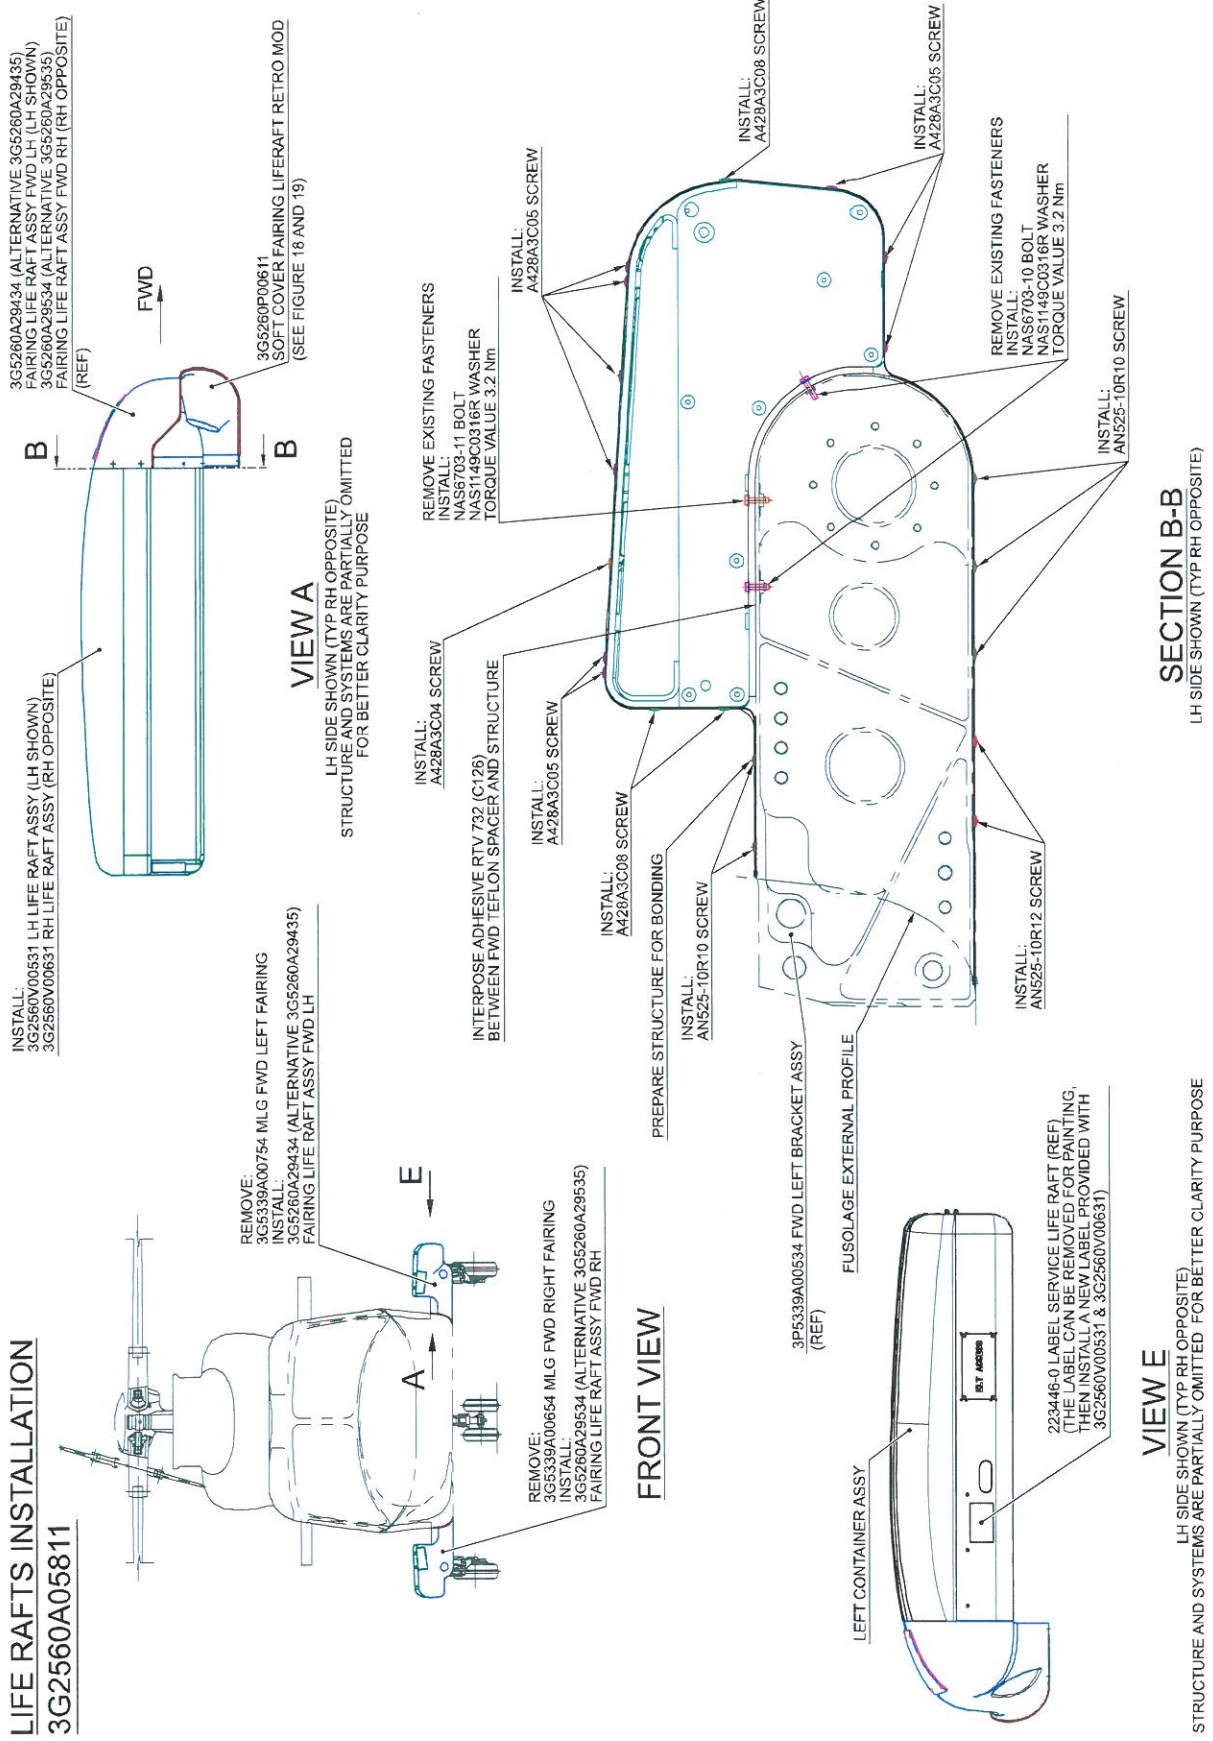
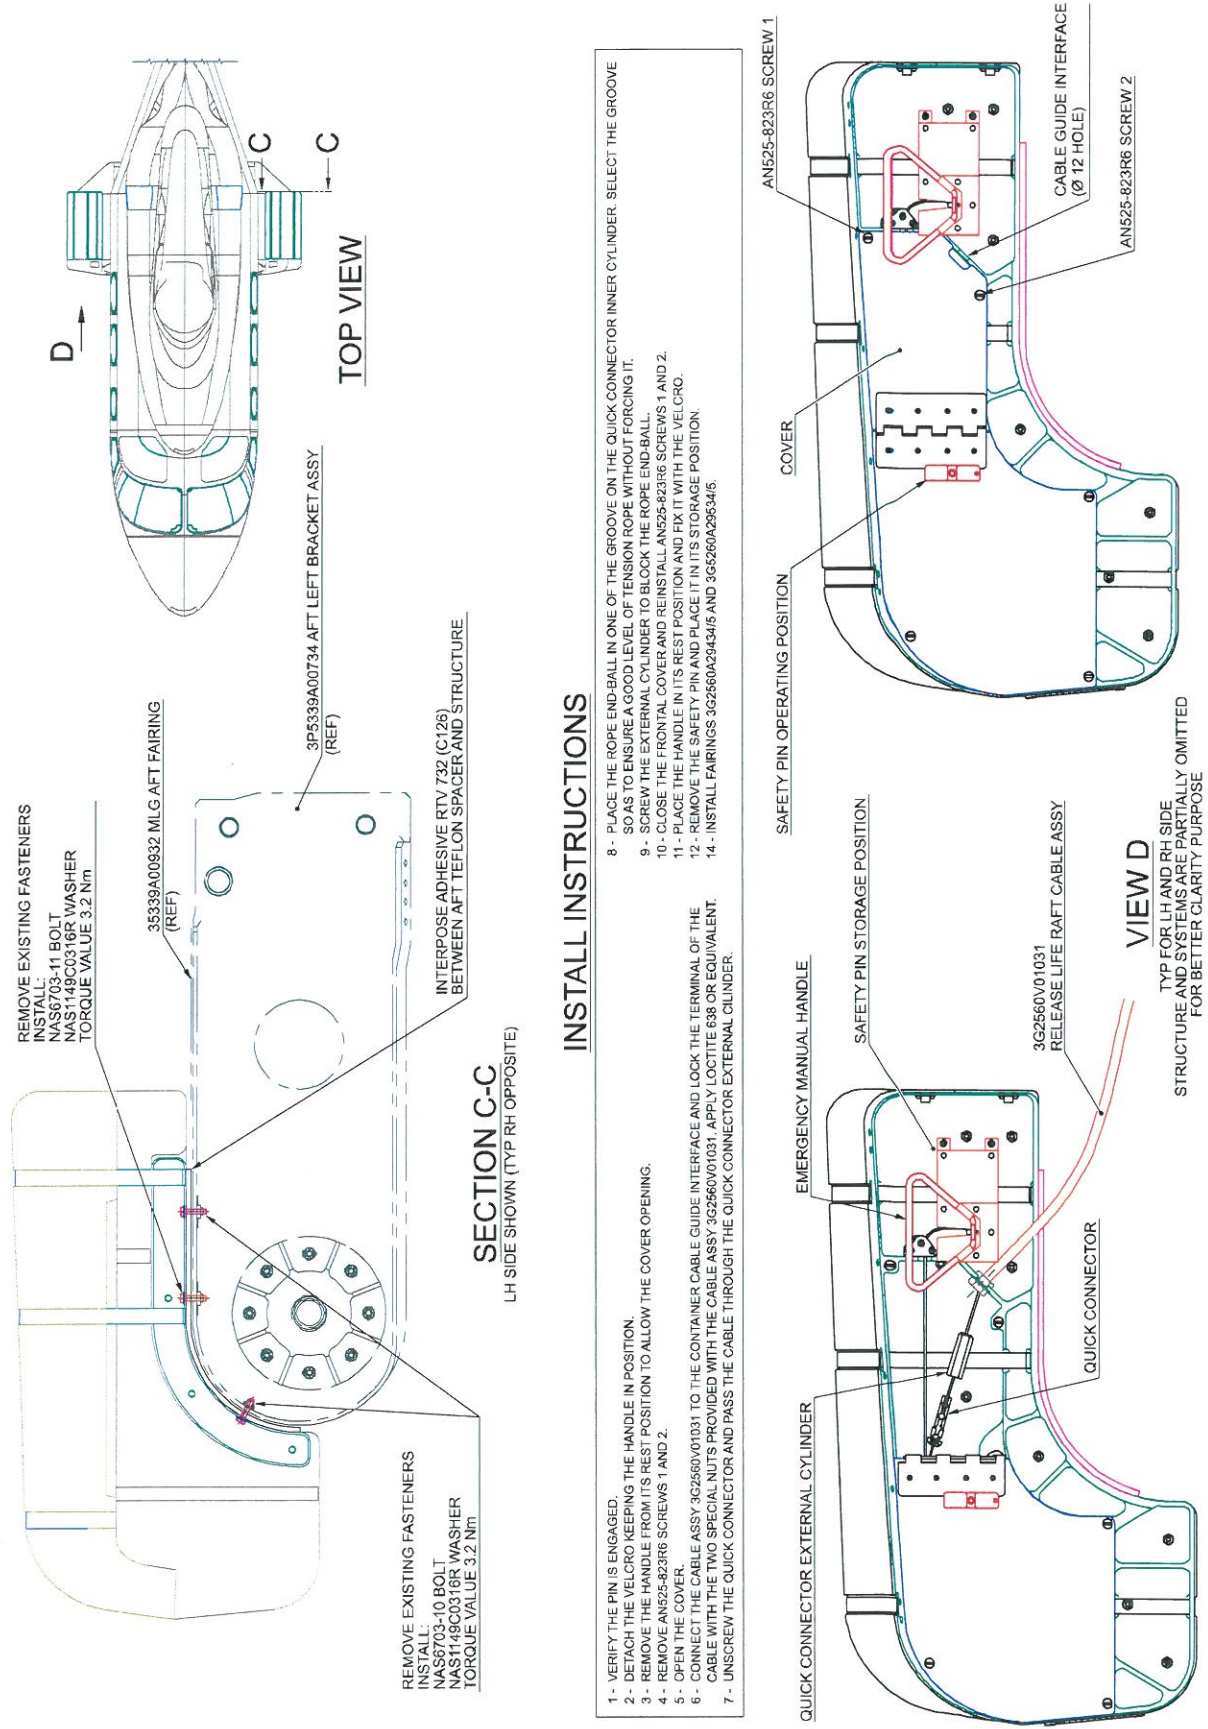

Figure 16
Figure 17
3.2.4 With reference to Figure 16 Section B-B and Figure 17 Section C-C, interpose a layer of silicone adhesive between the teflon spacer and the structure of the left sponson. Use adhesive RTV 732 (C126).
3.2.5 With reference to Figures 16 and 17 and in accordance with the applicable steps of AMP DM 39-D-25-62-01-00A-720A-K, install the LH life raft assy P/N 3G2560V00531 on the left sponson by means of n°2 bolts P/N NAS6703-11, n°4 bolts P/N NAS6703-10 and n°6 washers P/N NAS1149C0316R.
3.2.6 With reference to Figure 16 Section B-B, temporary locate the fairing life raft assy FWD LH P/N 3G5260A29434 or P/N 3G5260A29435 in position on the left sponson and enlarge pilot holes up to Ø5.512+5.639 in accordance with the existing holes on the structure.
3.2.7 With reference to Figure 16 Section B-B, prepare the surface for bonding in the indicated position.
3.2.8 With reference to Figure 16 Front View and Section B-B and in accordance with AMP DM 39-D-25-62-06-00A-720A-K, install the fairing life raft assy FWD LH P/N 3G5260A29434 or P/N 3G5260A29435 on the LH life raft assy P/N 3G2560V00531 by means of n°1 screw P/N A428A3C04, n°9 screws P/N A428A3C05, n°3 screws P/N A428A3C08, n°5 screws P/N AN525-10R10 and n°2 screws P/N AN525-10R12.
3.2.9 With reference to Figure 16 Section B-B and Figure 17 Section C-C, interpose a layer of silicone adhesive between the teflon spacer and the structure of the right sponson. Use adhesive RTV 732 (C126).
- 3.2.10 With reference to Figures 16 and 17 and in accordance with the applicable steps of AMP DM 39-D-25-62-02-00A-720A-K, install the RH life raft assy P/N 3G2560V00631 on the right sponson by means of n°2 bolts P/N NAS6703-11, n°4 bolts P/N NAS6703-10 and n°6 washers P/N NAS1149C0316R.
- 3.2.11 With reference to Figure 16 Section B-B, temporary locate the fairing life raft assy FWD RH P/N 3G5260A29534 or P/N 3G5260A29535 in position on the right sponson and enlarge pilot holes up to Ø5.512÷5.639 in accordance with the existing holes on the structure.
- 3.2.12 With reference to Figure 16 Section B-B, prepare the surface for bonding in the indicated position.
- 3.2.13 With reference to Figure 16 Front View and Section B-B and in accordance with AMP DM, install the fairing life raft assy FWD RH P/N 3G5260A29534 or P/N 3G5260A29535 on the RH life raft assy P/N 3G2560V00631 by means of n°1 screw P/N A428A3C04, n°9 screws P/N A428A3C05, n°3 screws P/N A428A3C08, n°5 screws P/N AN525-10R10 and n°2 screws P/N AN525-10R12.